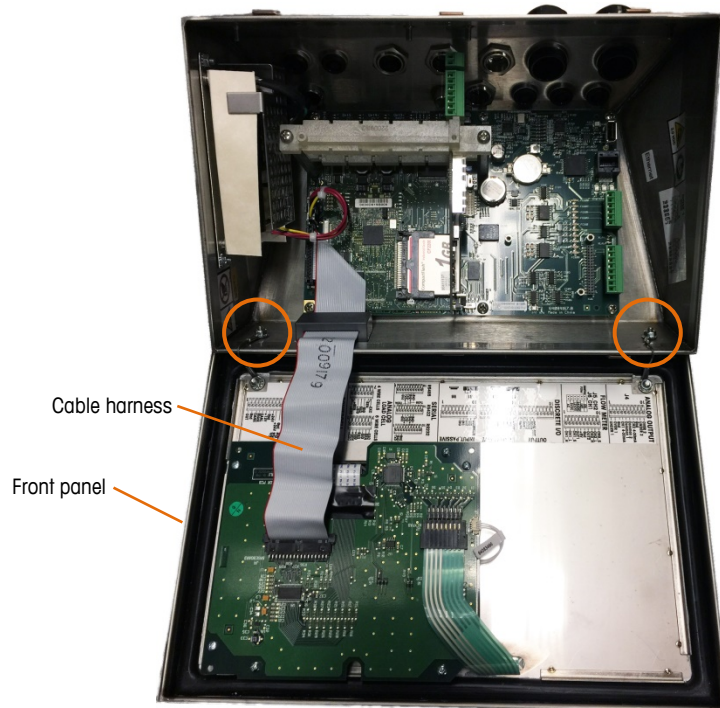

Figure 2-9: Harsh Enclosure Open, with Front Panel in Original Orientation
6. Loosen and remove the two nuts securing the two metal cables that hinge the front cover to the rear housing. These are circled in Figure 2-9.